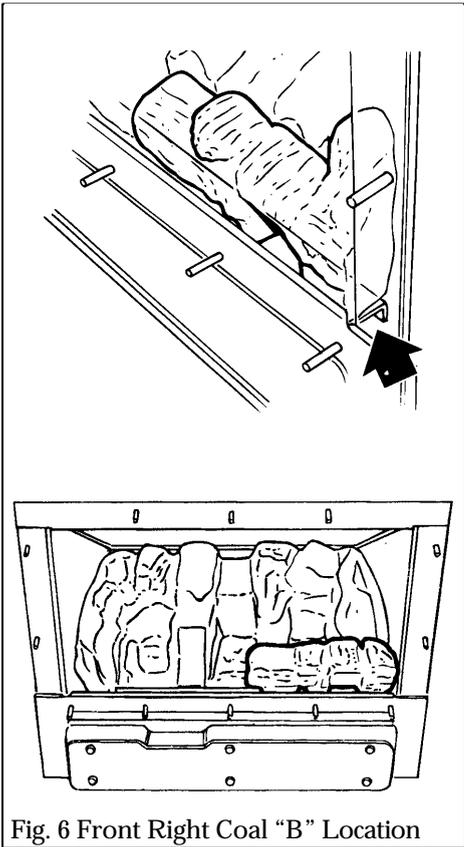

Fig. 6 Front Right Coal "B" Location
3.3.2 Place the front right coal (embossed 'B' underneath) in position. The flat bottom front face of the coal should rest on the metal ledge immediately behind the bottom front of the firebox opening. Slide the coal to the right side. See figure 6.